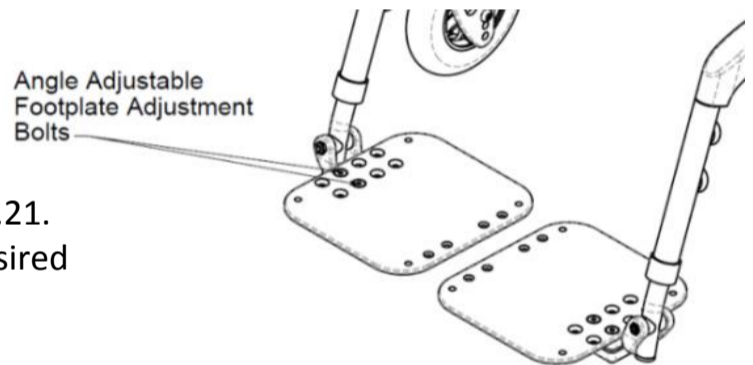

Figure 14.21: Angle Adjustable Footplates
1. Loosen the angle adjustable footplate adjustment bolts as shown in Figure 14.21.
1. Remove the angle adjustable footplate adjustment bolts as shown in Figure 14.21.
1. Loosen the angle adjustable footplate adjustment bolts (See Figure 14.21).
1. Remove the angle adjustable footplate adjustment bolts shown (See Figure 14.21).